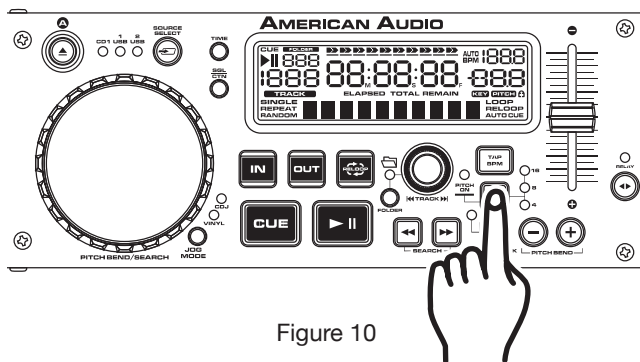

Figure 10
Using the Pitch Slider Percentage Selector (8): You may choose a pitch operating range at any time. To change the operating range be sure the pitch function is turned on, see figure 10. The pitch percentage can be changed between +/-4%, +/-8%, +/-16%, and 100%. 4% will allow the least amount of pitch manipulation and 100% will allow the most amount of pitch manipulation. To adjust the different values, press the PITCH ON/OFF BUTTON (8) and Tap on the % BUTTON (8) until your desired value is reached. The LED of the % BUTTON (8); glowing red for 4%, glowing yellow for 8%, or glowing amber for 16%, and all LEDs glowing for 100%.